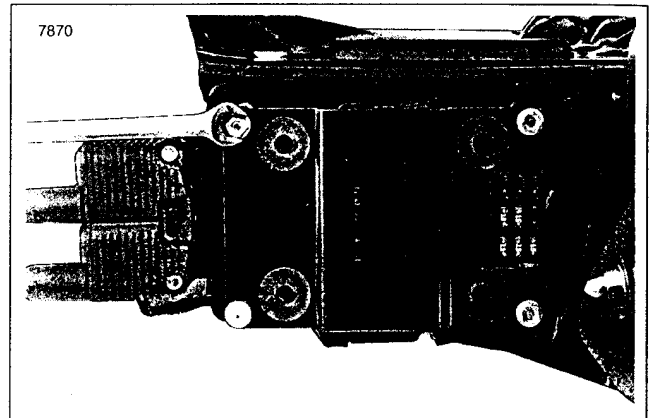

Figure 8-9. Removing/installing Top Plate
5. See Figure 8-9. Secure nuts on top plate. Tighten to 70-90 in-lbs (7.9-10.16 Nm.)